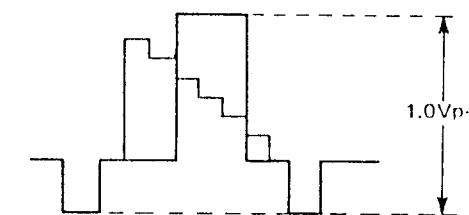

Figure 36.
- 3) Adjust R208 (E—E level control) to set the input level to 1V p-p as shown in figure 36.